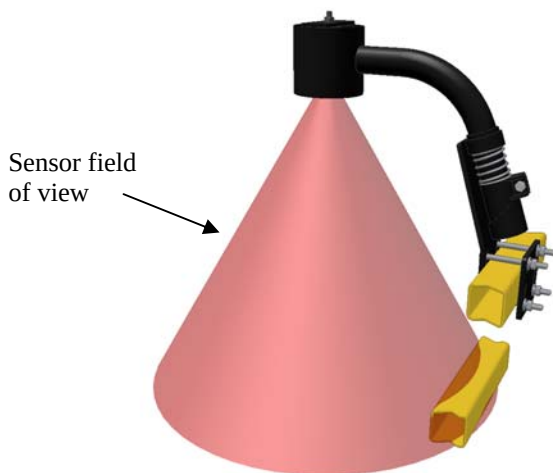

Figure 2 – Sensor Reading of the Boom
- When mounting to the top part of the boom (as shown in **Figure 2**), check that the sensor can not read off the bottom part of the boom.